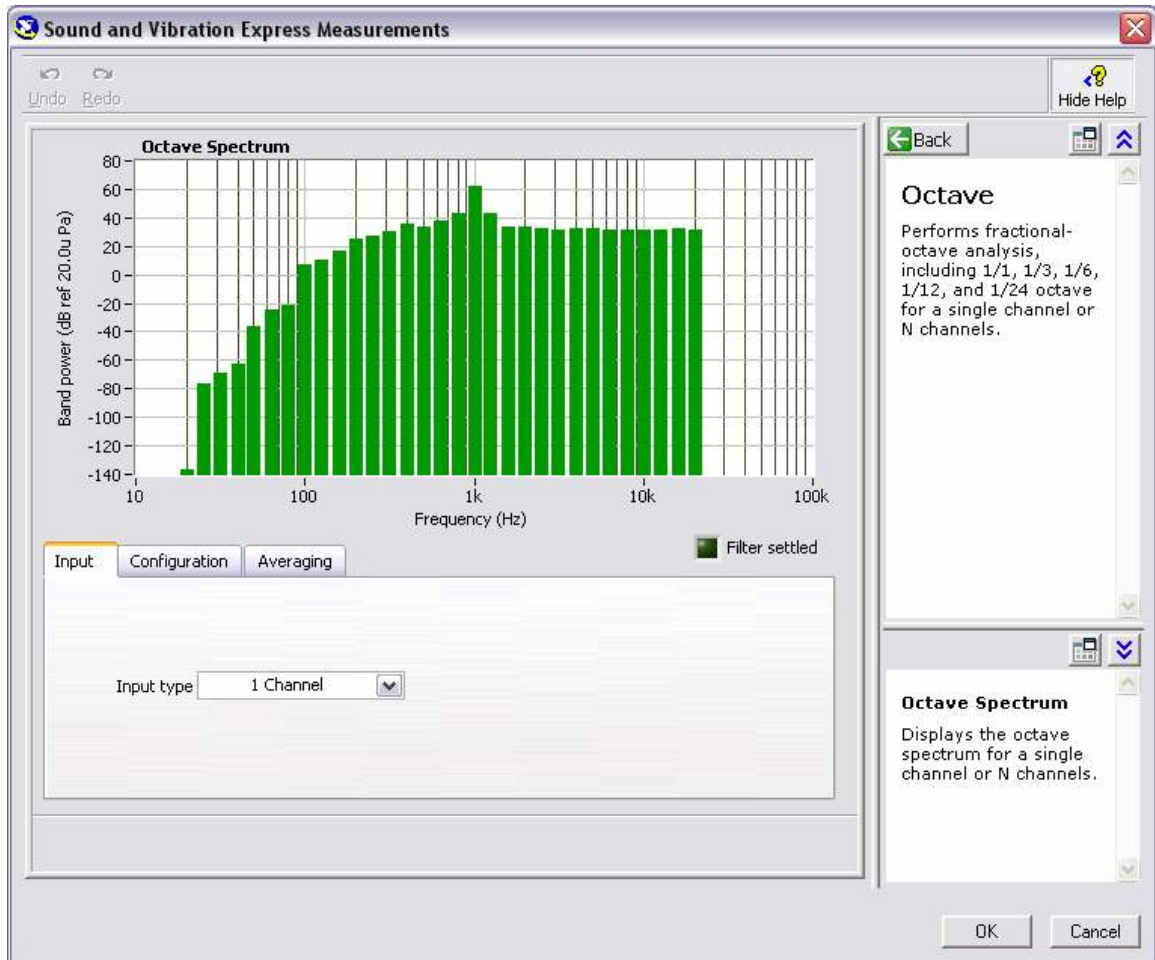

Figure 1-17. Configuration window of Octave Analysis Express VI
1. Go to Functions >> Addons >> Sound & Vibration >> S&V Express Measurements palette and place the Octave Analysis Express VI on the block diagram. This Express VI performs fractional octave analysis on the scaled data from a microphone. The Octave Analysis Express VI opens the configuration window in figure 1-17.